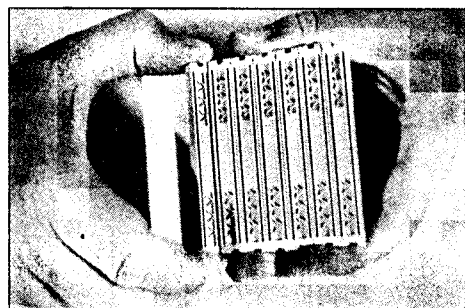

figure 4
**Socket Connector 6964-000x:** Remove cover from the paper liner by snapping the cover down against the adjacent cover, then pulling away laterally. (fig. 4)